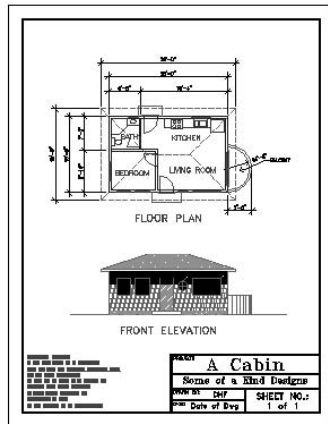

FIGURE 14.1: Cabin11a zoomed to Extents and then zoomed out a little
1. Open Cabin11a. Zoom to Extents, and then zoom out a little (see Figure 14.1). This drawing is not quite ready to print.